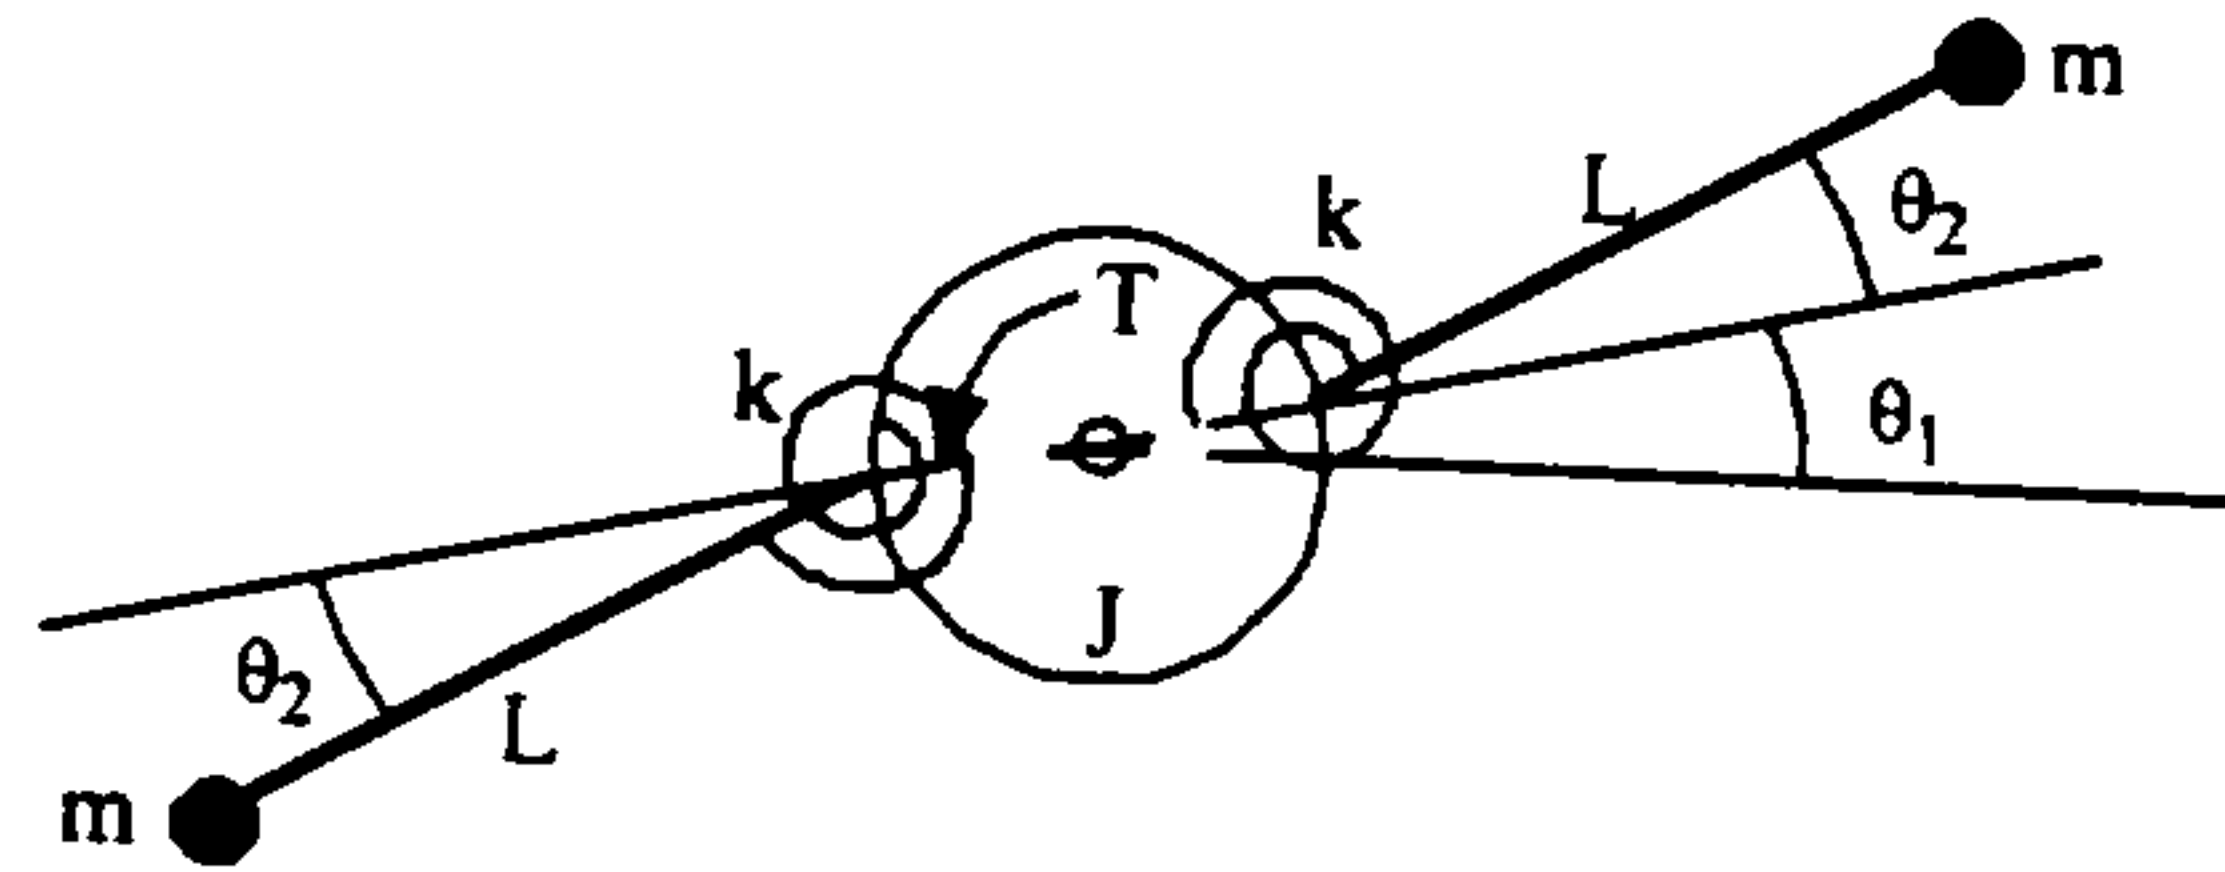

Fig. 1: Satellite Model.
4. You are a member of a team designing a control system for a satellite. The satellite will orbit earth while it scans various portions of outer space, looking for signs of intelligent life. Since the search might take a while, the satellite must continually obtain power from the sun. To do this, it is equipped with large solar panels. In order to maximize power absorption, the satellite routinely reorients itself so that the solar panels are pointing at the sun. Given the solar panels are very large and thin, they have a tendency to vibrate. A simple model of the satellite is shown in Figure 1.
- 2) The solar panels will actually have a lot of additional vibration modes that are much higher than the low modes captured in Fig. 1. How will they effect the response?